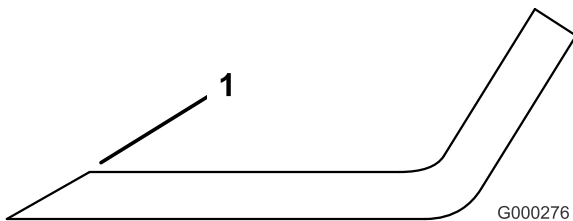

Figure 88
1. Use a file to sharpen the cutting edge at both ends of the blade (Figure 88).